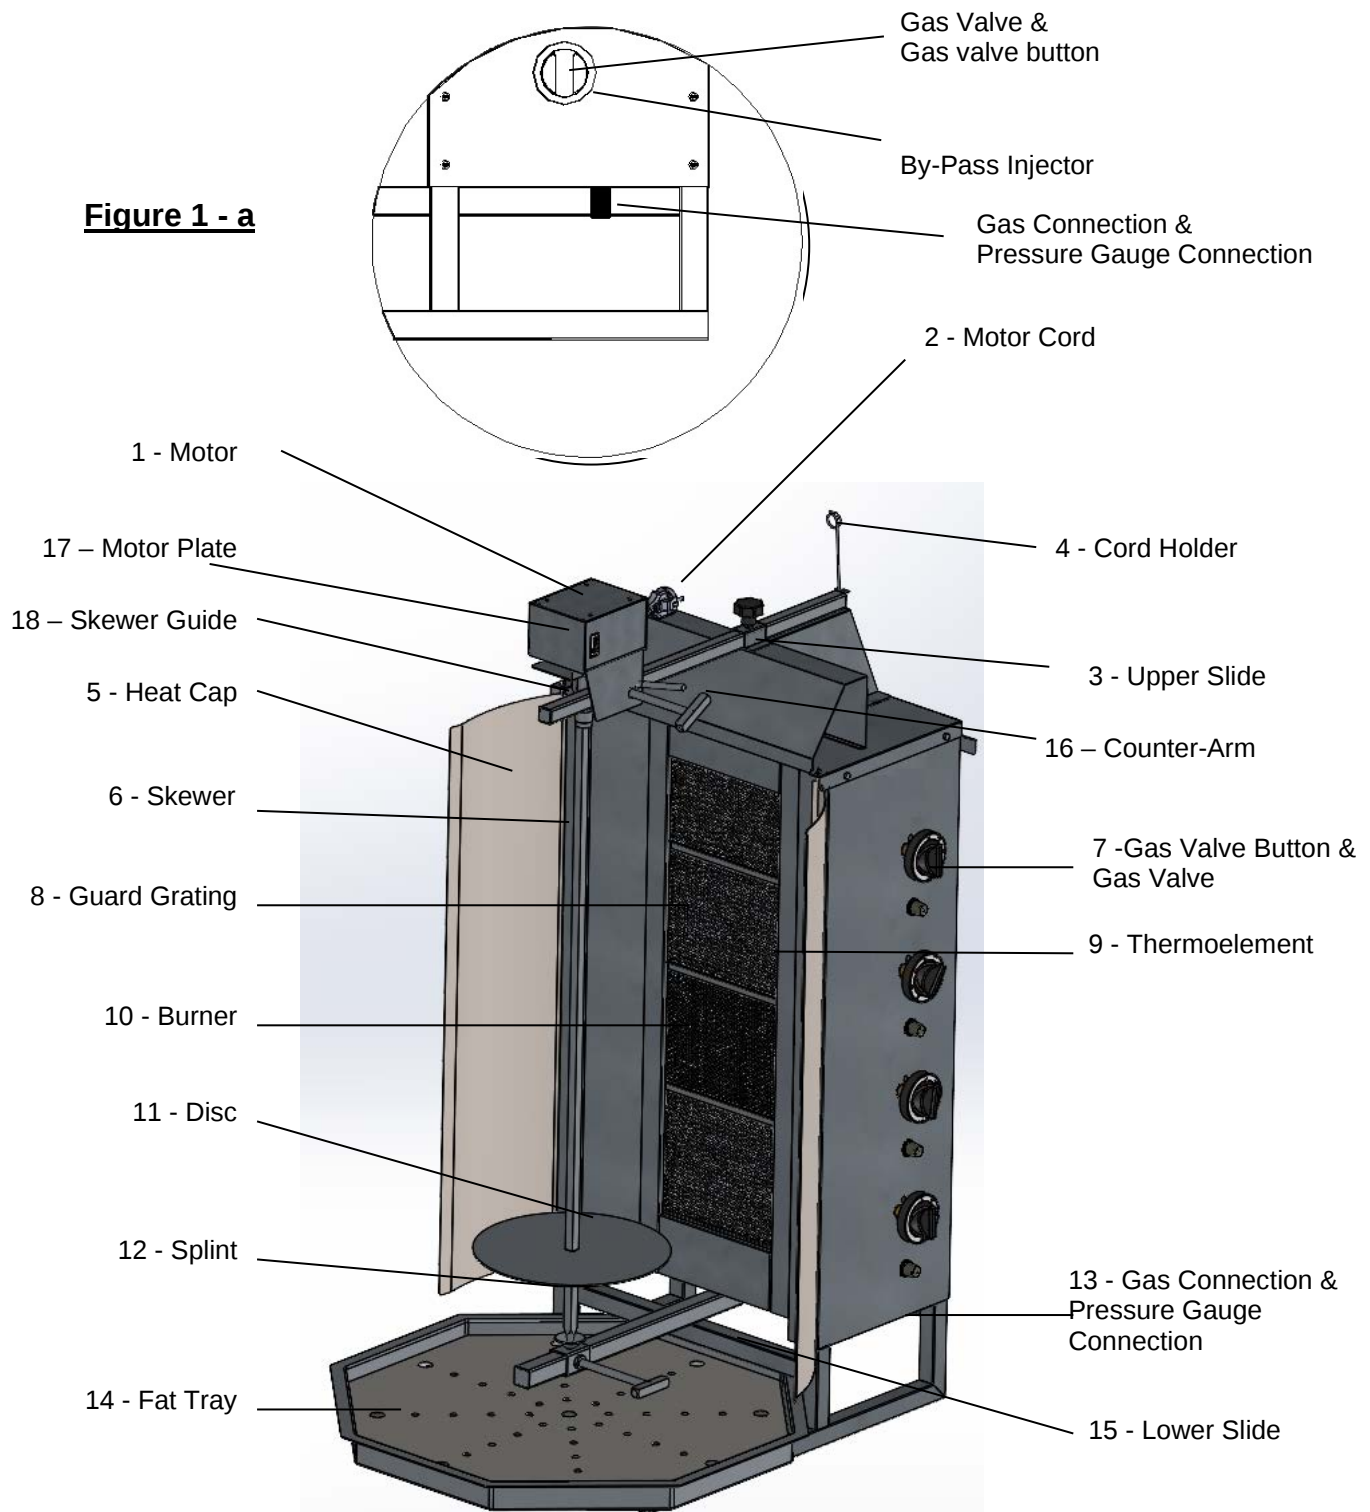

Figure 1 - b
* Use the Heat Cap (5) being an original part of the appliance, in order to protect the motor from excessive heat during operation. (Figure 1-b)
3.1.1 – Motor on Top (Figure 1 – b)
After installing the appliance in compliance with the regulations mentioned in the User's Manual of the motor on top type of vertical broiler, the fat tray and the motor (Figure 1–b) are inserted, making the appliance ready for use. In these types of appliances, unscrew upper and lower slide arms for the meat grilling. The distance between the skewer (6) with meat on, and the burners is adjusted with the help of these arms.
(Figure 1-b)**
Please follow the following procedure to operate your appliance without motor. (Figure 1-b)